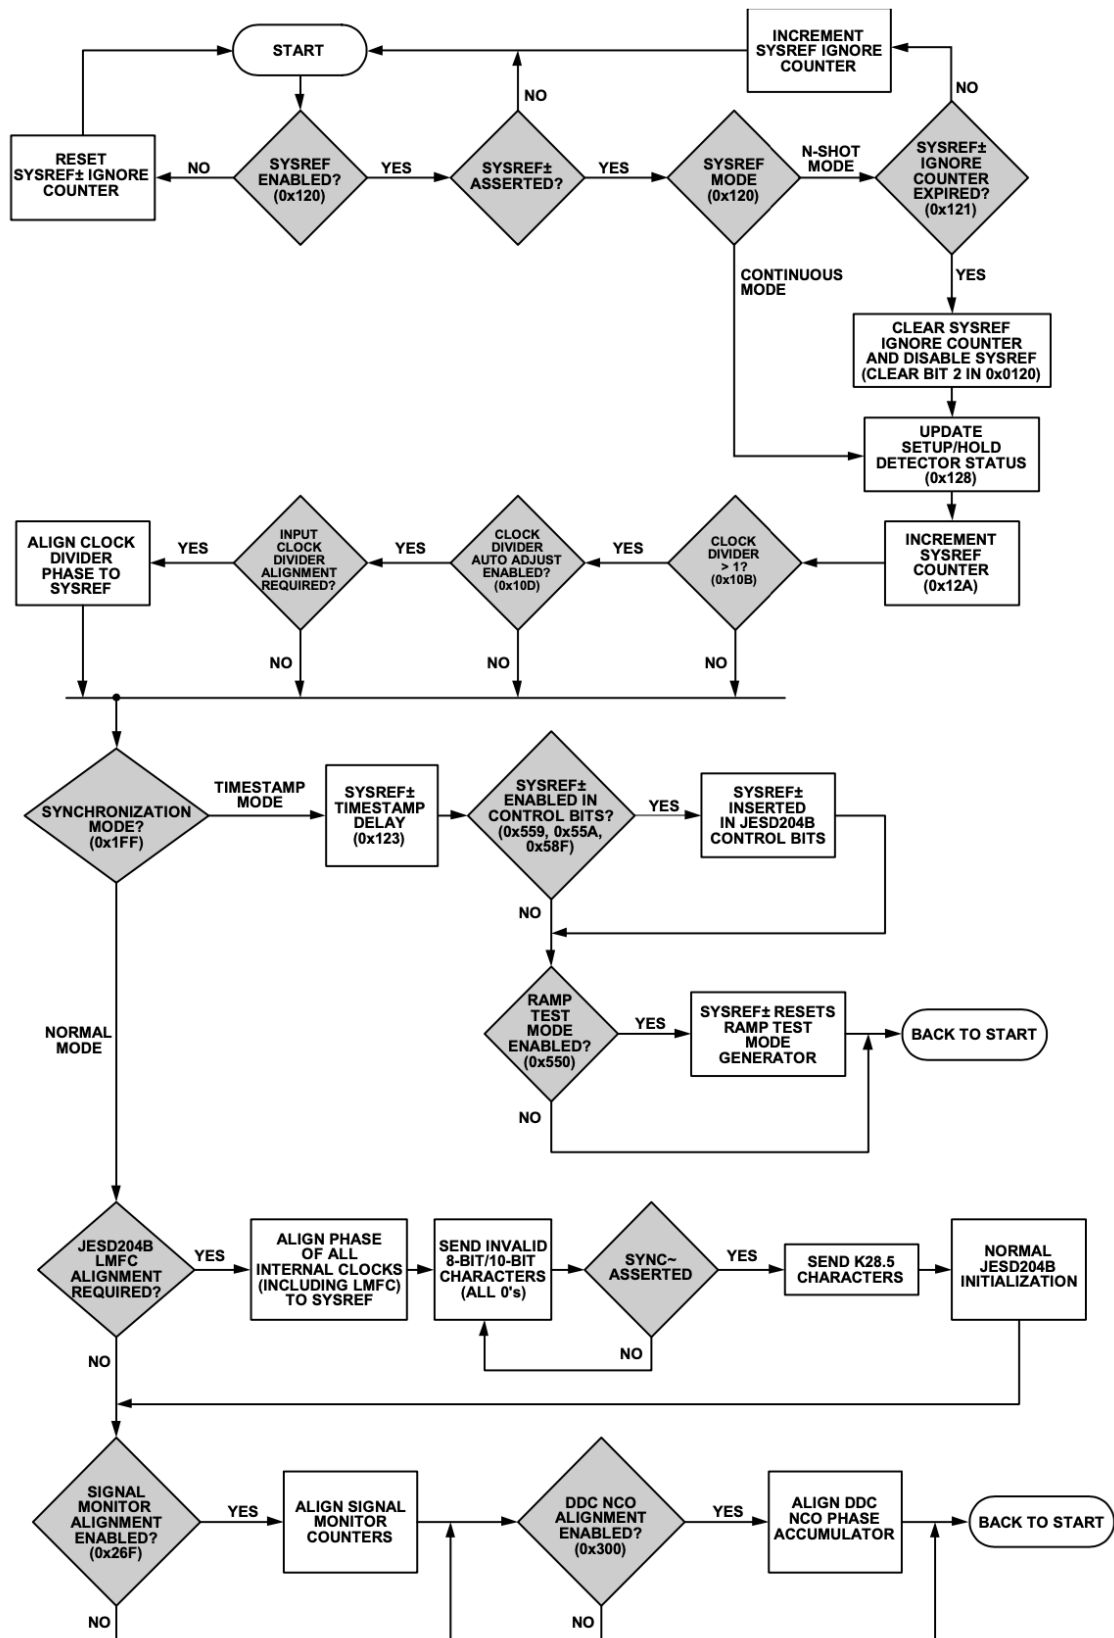

Figure 175. SYSREF± Capture Scenarios and Multichip Synchronization
The flowchart shown in Figure 175 describes the internal mechanism for multichip synchronization in the CLM9680BCPZ.
The default state of the chip synchronization mode bit is 0, which configures the CLM9680BCPZ for normal chip synchronization. The JESD204B standard specifies the use of SYSREF± to provide deterministic latency within a single link. This same concept, when applied to a system with multiple converters and logic devices, can also provide multichip synchronization. In Figure 175, this is referred to as normal mode. Following the process outlined in the flowchart ensures that the CLM9680BCPZ is configured appropriately. Consult the logic devices user intellectual property (IP) guide to ensure that the JESD204B receivers are configured appropriately.